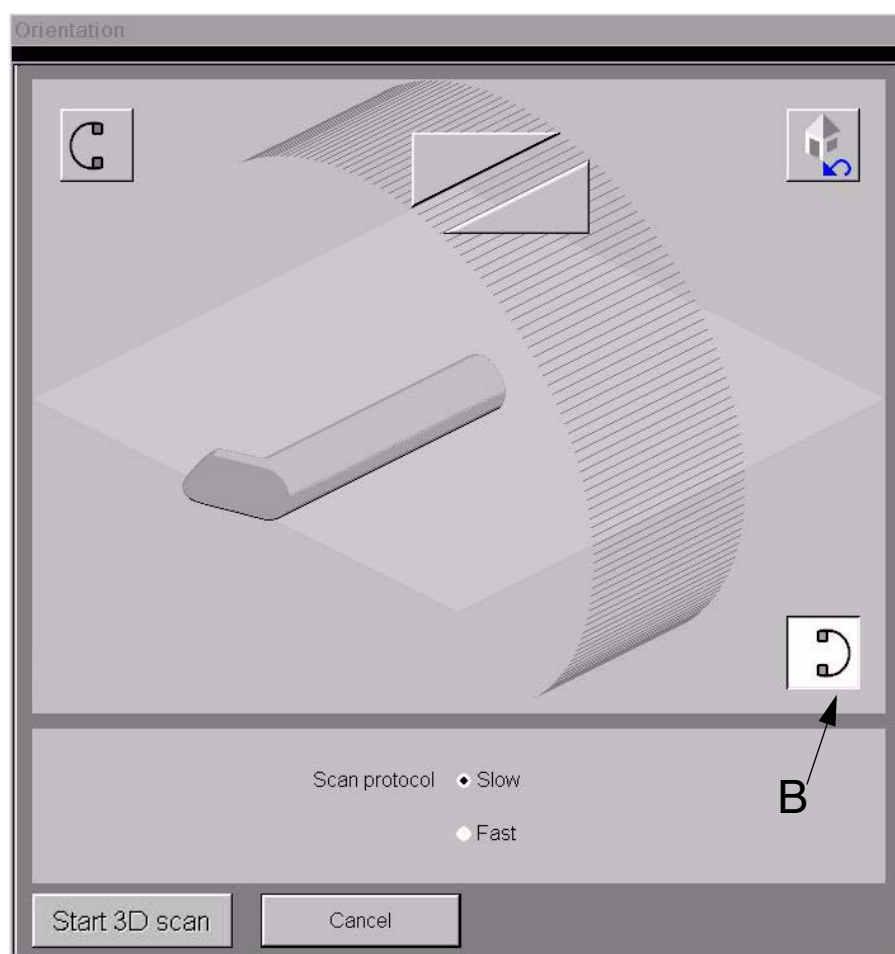

Fig. 7
- Press the B button. This activates the "Start 3D Scan" button (Fig. 7).